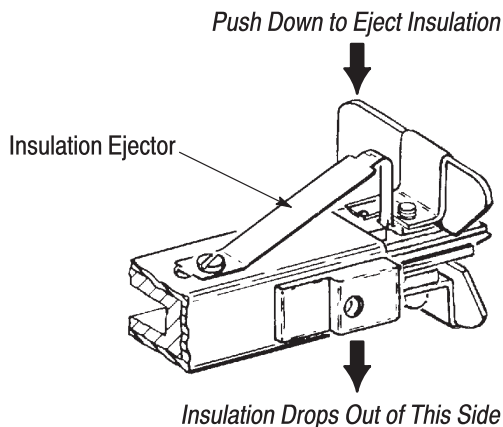

Figure 9
7. Push the insulation ejector to remove the stripped insulation from the tool before inserting the next wire. Refer to Figure 9.